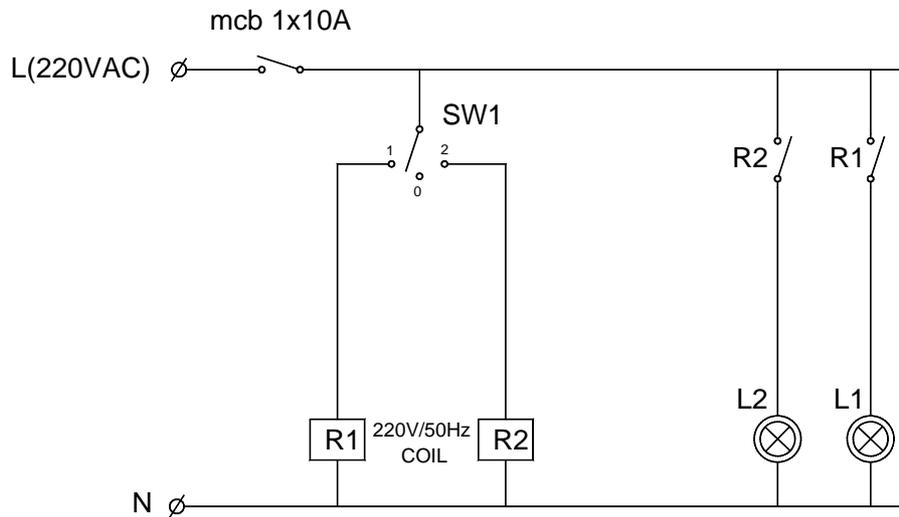

Fig. 1.4 Energizing and de-energizing relays using toggle switch (1-0-2)
1. Assemble the components of the circuit shown in figure 1.4 the control board and make the required wiring and connections.